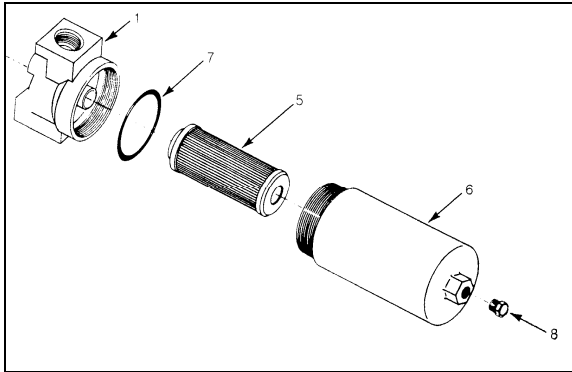

FIGURE 46: WATER FILTER 22057
3. Rotate bowl (6) counterclockwise and remove.
4. Remove element (5) from housing. Discard all disposable elements. These elements are not cleanable (Fig. 46).
This valve is optional and is installed on the vehicle equipped with a preheater. The valve is located in the HVAC compartment (Fig. 18). This valve is similar to the driver's liquid solenoid valve. Refer to Fig. 46 for part names.